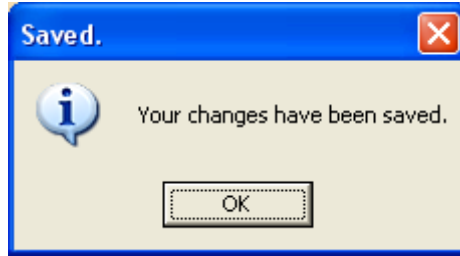

Figure 46 - Changes Saved message box
*Note: Currently, the drop-down list will also be populated with Video Recorder data loggers. Please use caution when selecting a data logger from the list; deleting data from a Video Recorder could produce undesirable consequences.* When the operator has selected the correct data logger, he/she can click on the “Load” button to load the survey data. To select multiple sequential records, hold down the Shift key and click on the desired records. To select multiple non-sequential records, hold down the Ctrl key and click on the desired records. Clicking on the “Delete” button will remove the survey records from the list. *Note – The survey records will be removed from the list, but not actually deleted from the SDS data logger until the “Save Changes” button has been clicked. If one or more survey record is accidentally deleted, click on the “X” in the top right of the screen to close the screen down, and start over.* Clicking on the “Save Changes” button will save the changes back to the SDS data logger. No confirmation is needed for this action. Once the changes have been saved, a message box will be displayed (Figure 46).